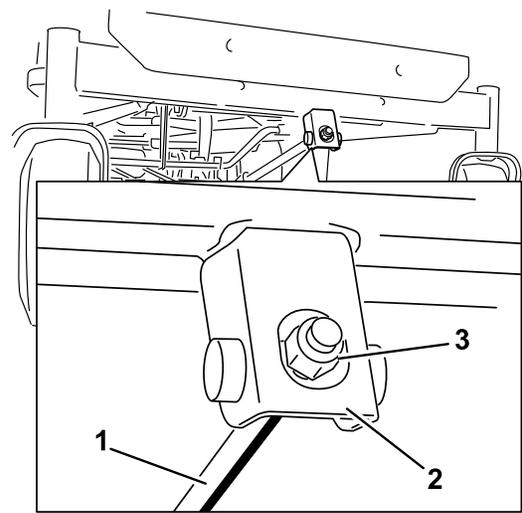

Figure 68
6. To adjust the front-to-rear blade slope, rotate the adjustment nut in the front of the mower (Figure 68).